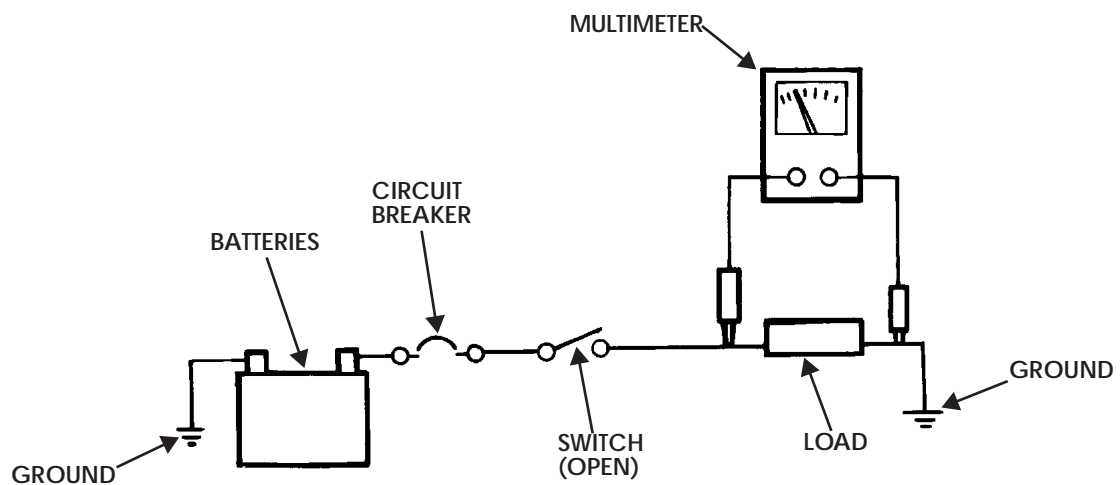

Figure 12-6: Ohm Test
**Continuity** - Testing for continuity in a circuit requires the use of the lowest ohm scale available. Position the multimeter leads on each side of the circuit or component being tested. A reading of less than one ohm is acceptable continuity (Figure 12-6).